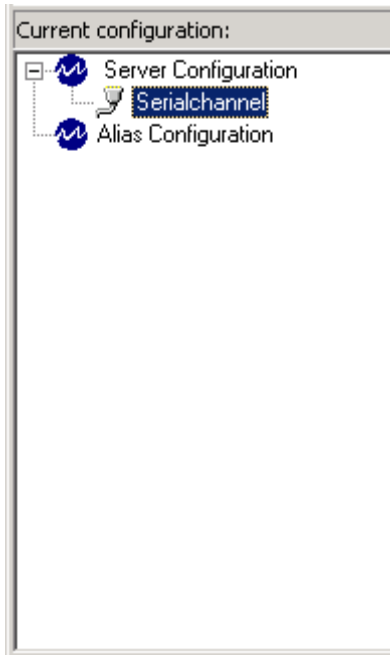

Figure 20 - New Serial Channel Object
8. Click on the **OK** button. The object is created and appears as a child of the **Server Configuration** item as shown in Figure 20.